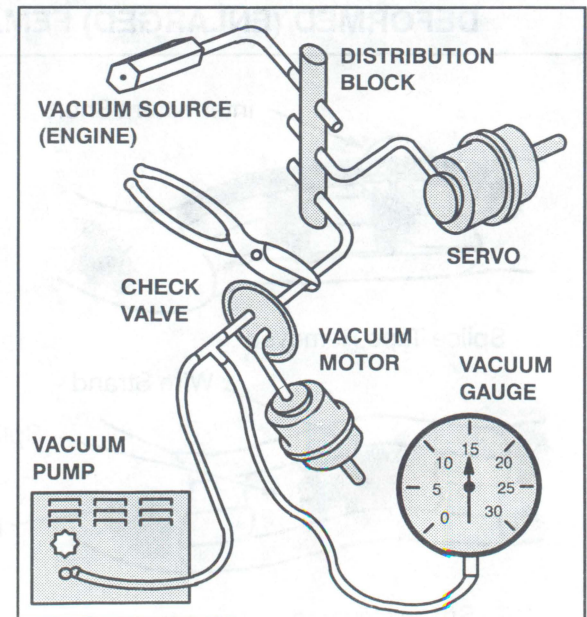

Figure 2 – Testing For Leaks In Typical Vacuum System
1. Connect Vacuum Gauge and Vacuum Pump (Figure 2) to system hose in place of tank.
3. Clamp supply hoses with needlenose pliers, one at a time, until vacuum stops dropping (Figure 2).